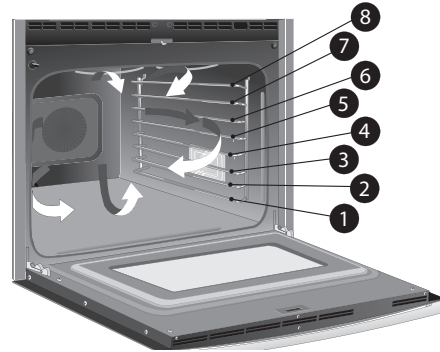
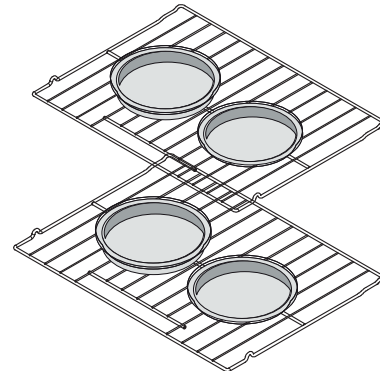

Figure 18: Air movement using convection
Figure 19: Baking on multiple levels
- When using two oven racks, place in positions 2 and 7 (Figure 18) and place bakeware as shown in Figure 19.